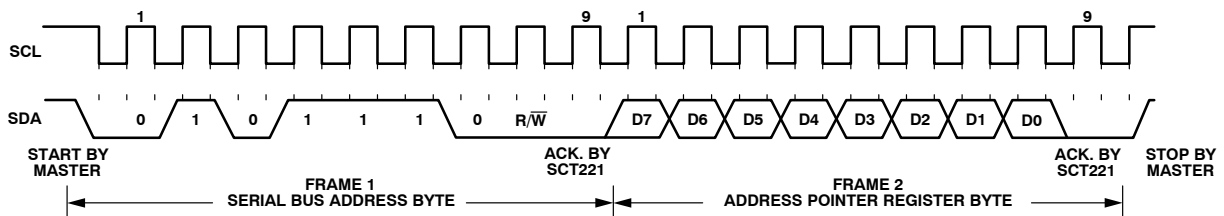

Figure 14. Writing to the Address Pointer Register Only
- If the SCT221 address pointer register value is unknown or not the desired value, it must first be set to the correct value before data can be read from the desired data register. This is done by performing a write to the SCT221 as before, but only the data byte containing the register address is sent, because no data is written to the register see Figure 14.